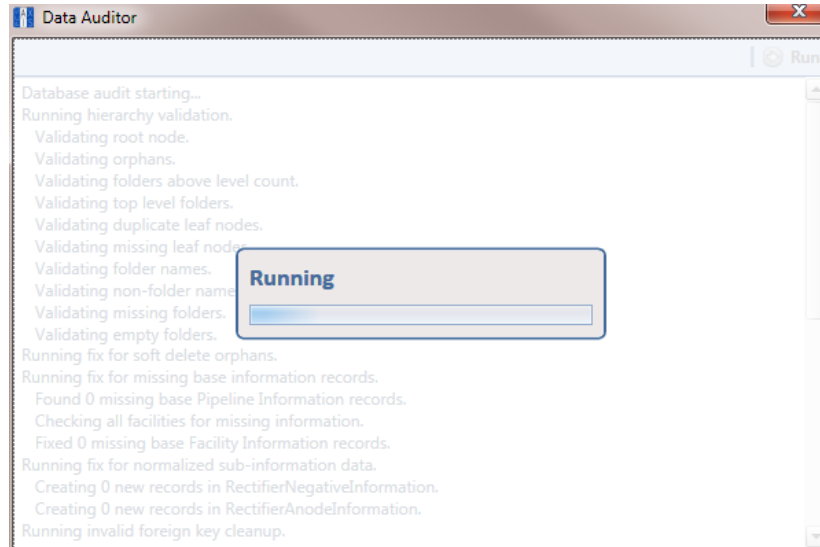

Figure 18-1. Data Auditor
- Click **File > Database Integrity Check** to open the *Data Auditor* window (Figure 18-1). Then click  **Run**.